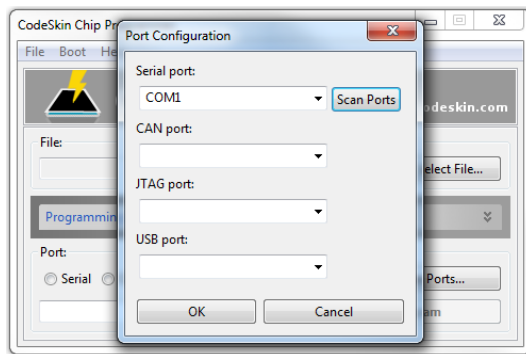

Figure 14: Start of the C2Prog software
- Now the first file in the Select File submenu in the program C2Prog (see Fig. 14) must be selected. This is the file **PQC_C28_Release_X_XX_XXXXXX.ehx**. After this file has been selected, the user is prompted to enter a passphrase. The appropriate password here is: **frakopqc**